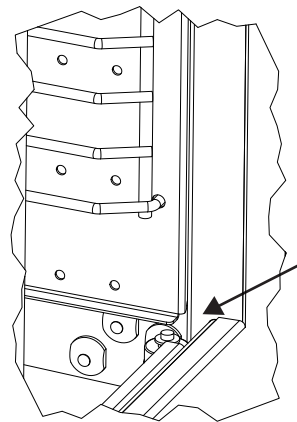

Fig. 1
5. Clean the water reservoir, level sensors (if an Auto-Fill Unit) and float switch (located at right side front of reservoir - see Fig. 1) with mild non-chloride detergent and rinse clean.